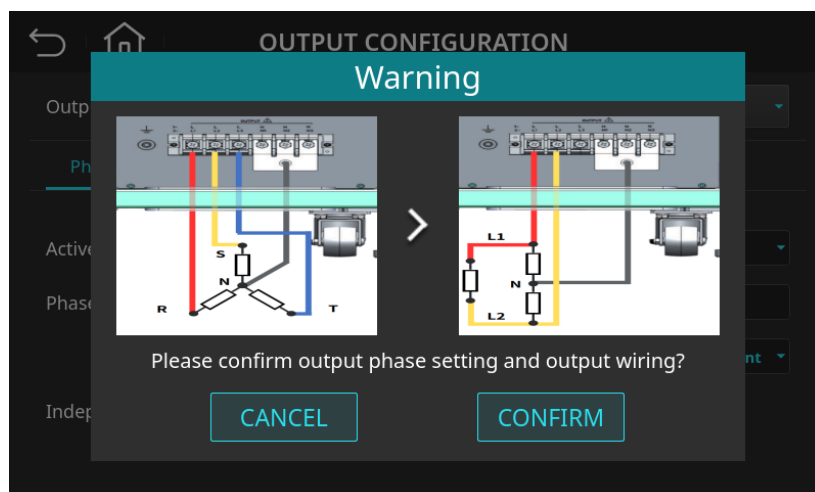

Figure 4-24: Phase Mode Switching Warning Page (Switching from Three Phase to Split Phase)
3. After confirming the output wiring is in split-phase mode, press the "CONFIRM" button, as shown in Figure 4-24.